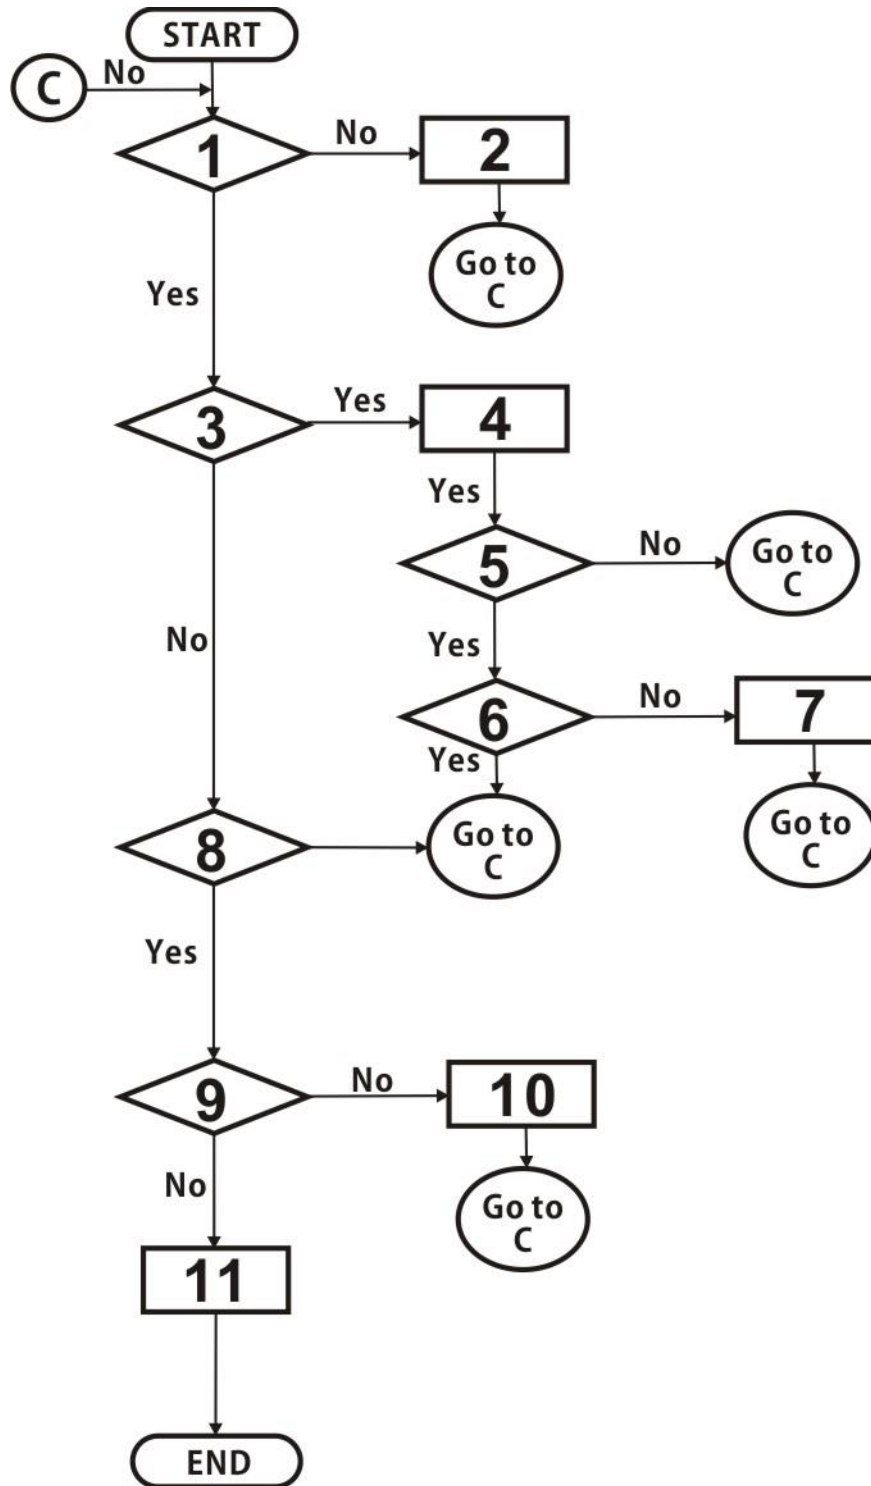

Figure W-8 Line Mode Examination Flowchart
12.7.2 Line mode examination (please refer to flowchart Figure W-8)